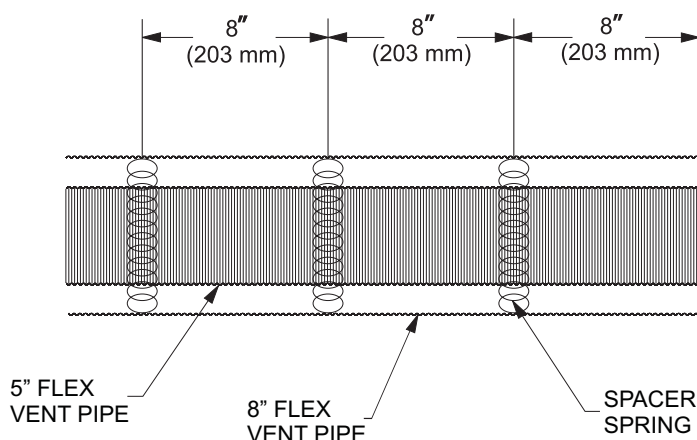

Figure 68
5. Install the Wall Firestop/Thimble assembly as required through the wall. Refer to the venting charts in the fireplace manual to determine the proper height and size of the vent opening. The minimum opening should be 10" wide by 12" high. The minimum combustible clearance from the horizontal vent is 1" from sides and bottom, and 3" above the vent pipe. **See Figure 68.**